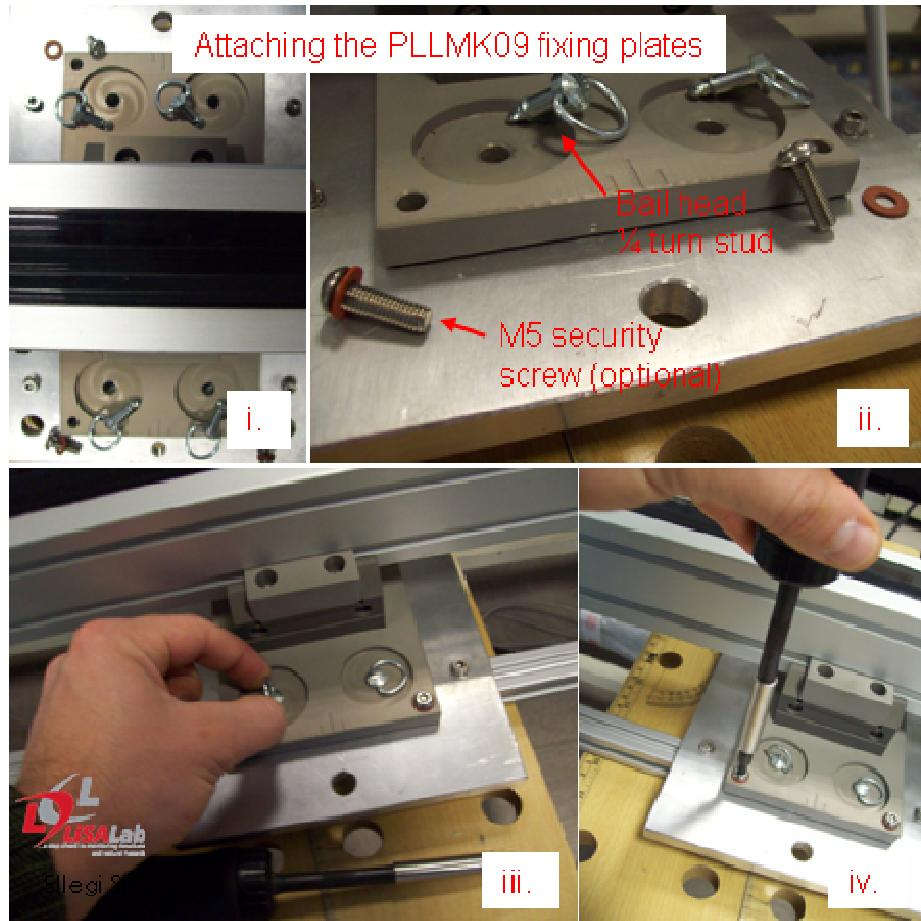

Figure 8: Step 2 of the installation procedure. Attaching the PLLM fixing plates to the counterplates.
2. Attach each fixing plate to its counterplate inserting four bail head $\frac{1}{4}$ turn studs in the fixing plate customized holes (Figure 8). Optionally also four M5 security screws can be inserted in each fixing plate (always install the security screws with their o-rings).